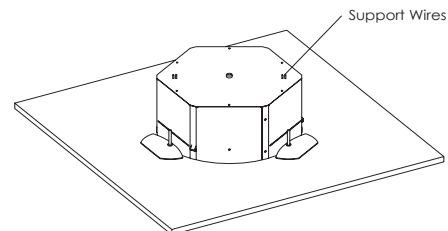

Figure 3
- For added support, run support wires from a secure structure to the two slots provided on the top of the housing (Figure 3).